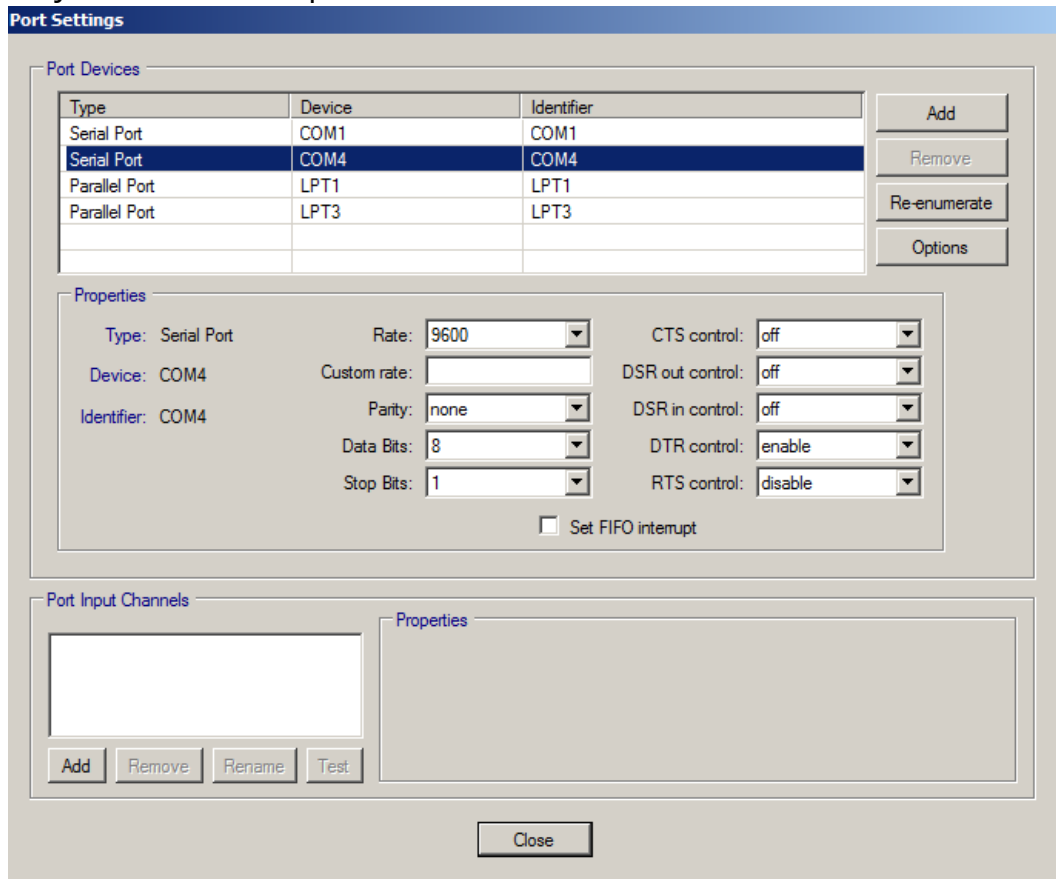

Figure 7: Presentation® Port Settings Window
- 9) Set the Serial Port properties as follows (Figure 7):